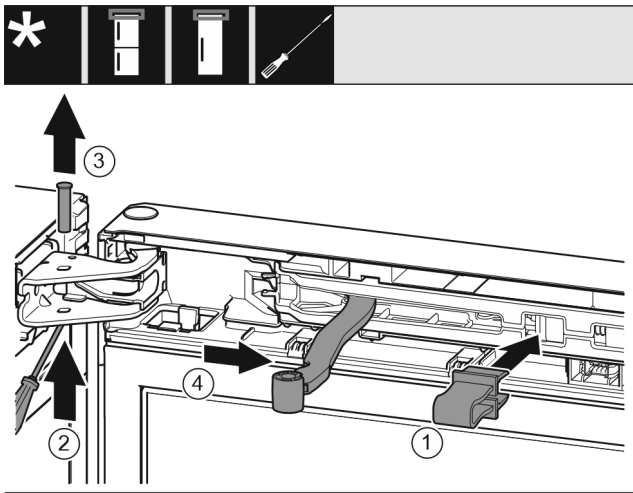

Fig. 10
- ▶ Latch safeguard Fig. 10 (1) into opening.
- ▶ Slide out the bolt Fig. 10 (2).
- ▶ Remove the bolt Fig. 10 (3) upwards.
- ▶ Turn the joint Fig. 10 (4) towards the door.